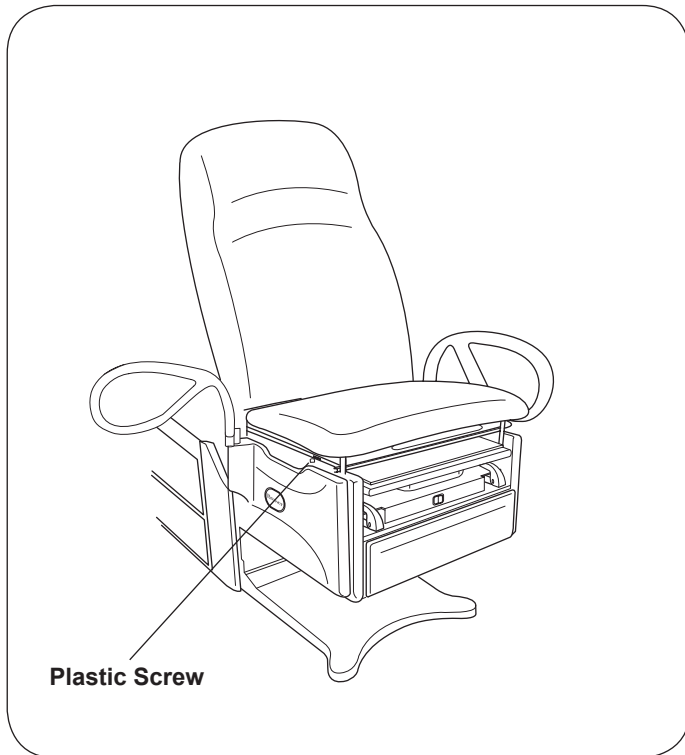

Figure 18. Removing the Work Surface
2. Remove the white plastic screw. (Figure 18.)